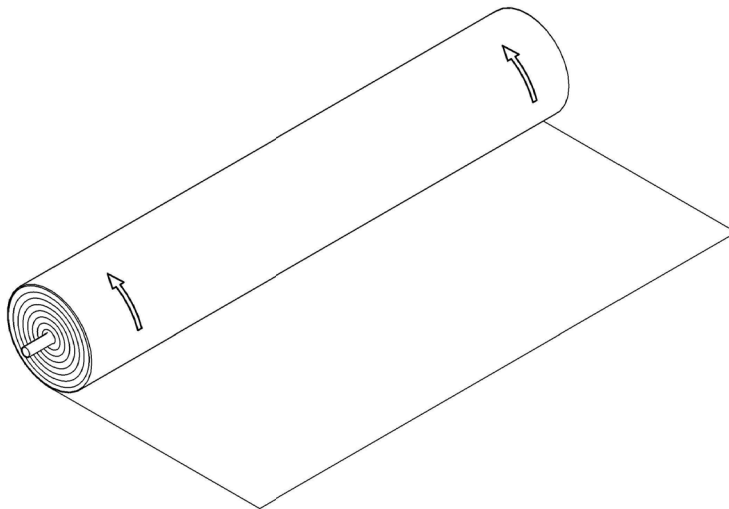

Fig. 6: Unwinding direction
- Unwinding is slow, controlled and with constant steering of the roll edges, so that adjusting the panels is minimized (Fig. 6.).